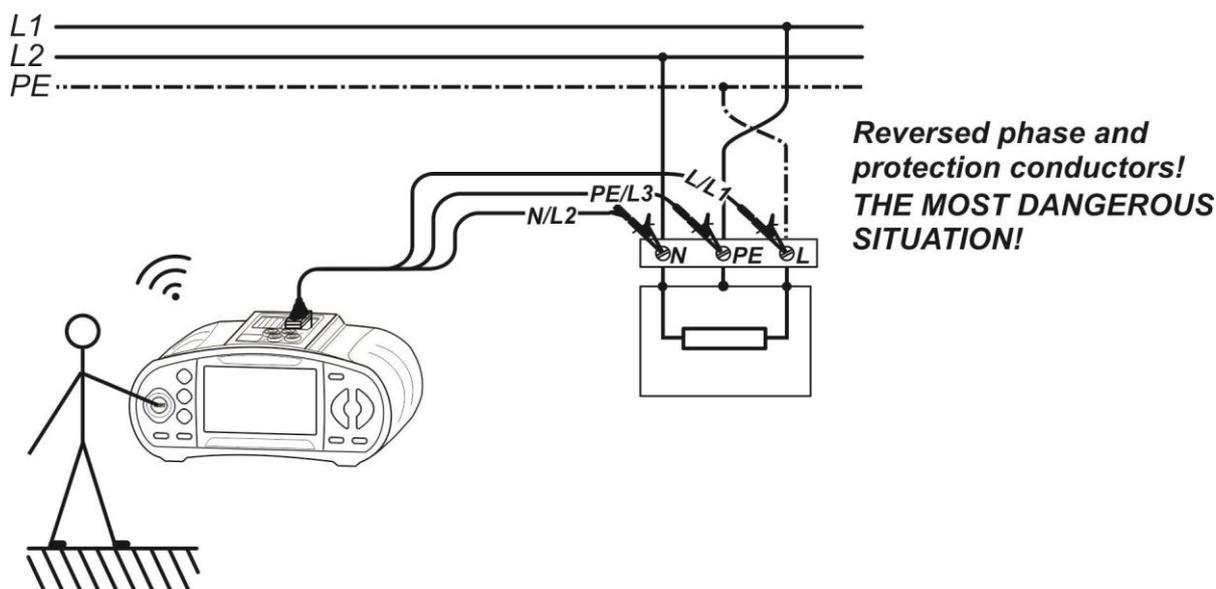

Figure 5.21: Reversed L and PE conductors (application of 3-wire test lead)
- ❑ **Connect** 3-wire test lead or mains measuring cable to the item to be tested (see Figure 5.21).